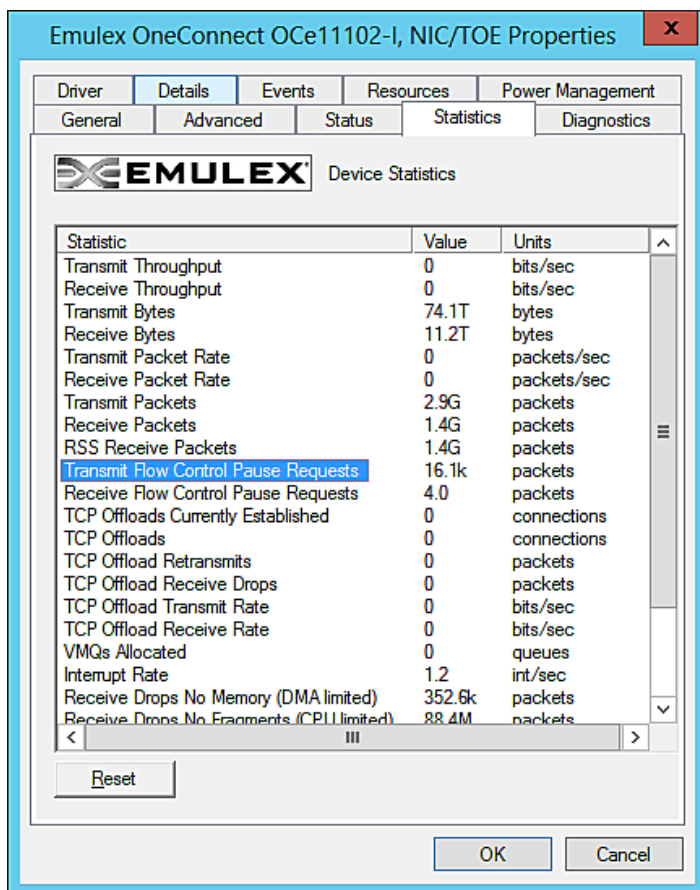

Figure 3-3 NIC Statistics Properties in Windows Server 2008
3. Click **Properties**, then click the **Statistics** tab (see Figure 3-3 on page 66).